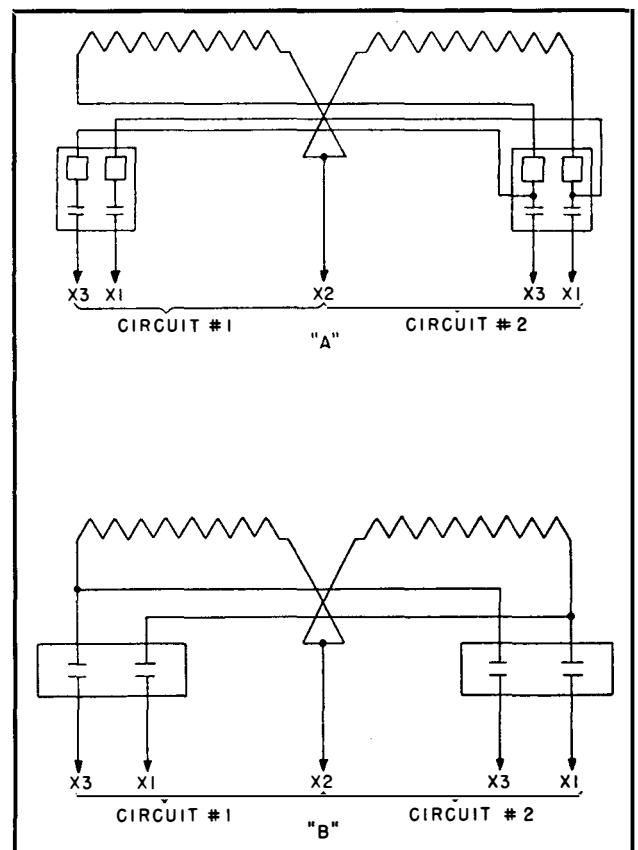

FIG. 6. Low-Voltage Connections of "CSPB" Transformer.
**Single-Phase "CSPB" or "CPB" Transformers.** Two low-voltage connections have been used in these transformers, as shown in Fig. 6, the connection used in a particular transformer being indicated on the nameplate. In either case, the "Circuit #1" terminals should be used to test the left-hand breaker, and the "Circuit #2" terminals to test the right-hand breaker. In transformers connected per Fig. 6A, the two breakers are not calibrated alike and different test currents must be